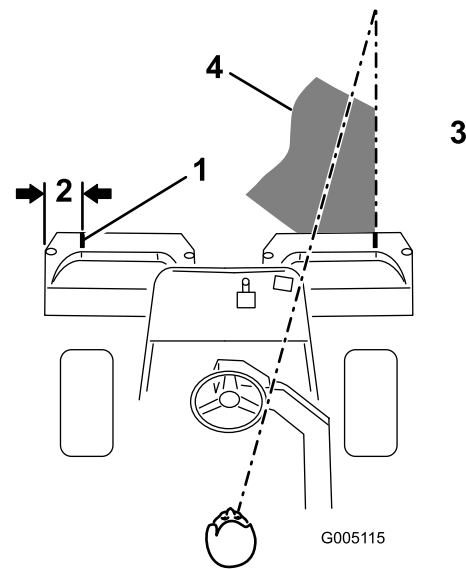
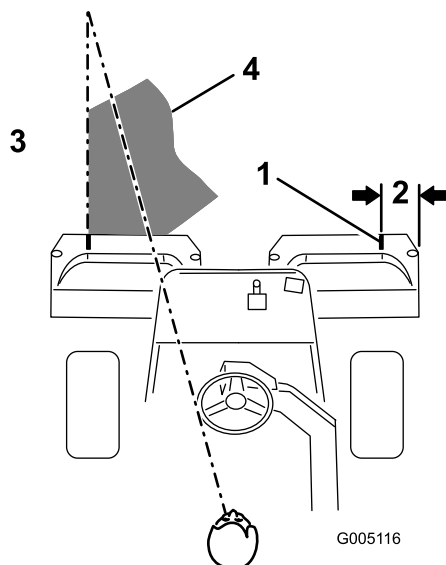

Figure 29
Figure 30
2. Either place a strip of white tape or paint a line onto each basket paralleling the outer edge of each basket (Figure 29).
3. Overlap a minimal amount with the previous cut on return passes. To assist in maintaining a straight line across the green and keep the machine an equal distance from the edge of the previous cut, establish an imaginary sight line approximately 6 to 10 ft (1.8 to 3 m) ahead of the machine to the edge of the uncut portion of the green (Figure 29 and Figure 30). Some find it useful to include the outer edge of the steering wheel as part of the sight line; i.e. keep the steering wheel edge aligned with a point that is always kept the same distance away from the front of the machine (Figure 29 and Figure 30).